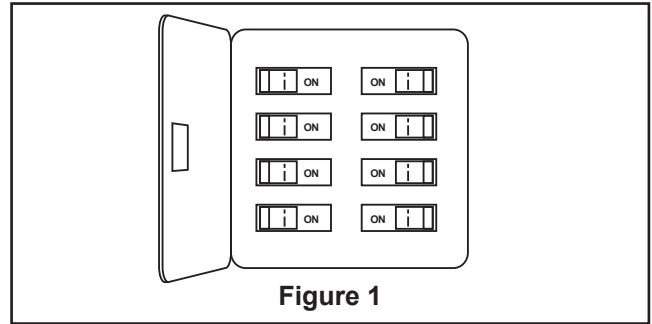

Figure 1
- ☐ 1. Disassemble the switch housing assembly by removing three screws. (Figure 1)
1. Restore electrical power to the outlet box by turning the electricity on at the main fuse box. (Figure 1)